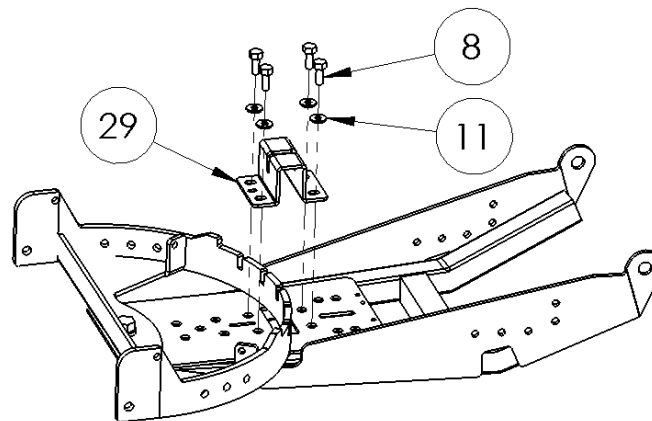

Figure 4
- 2) Attach the Pivot Lever Support Bracket (#29) to the Lift Arm Assembly via the 3/8" Bolts (#8) and washers (#11) included in your kit **(Figure 4)**.